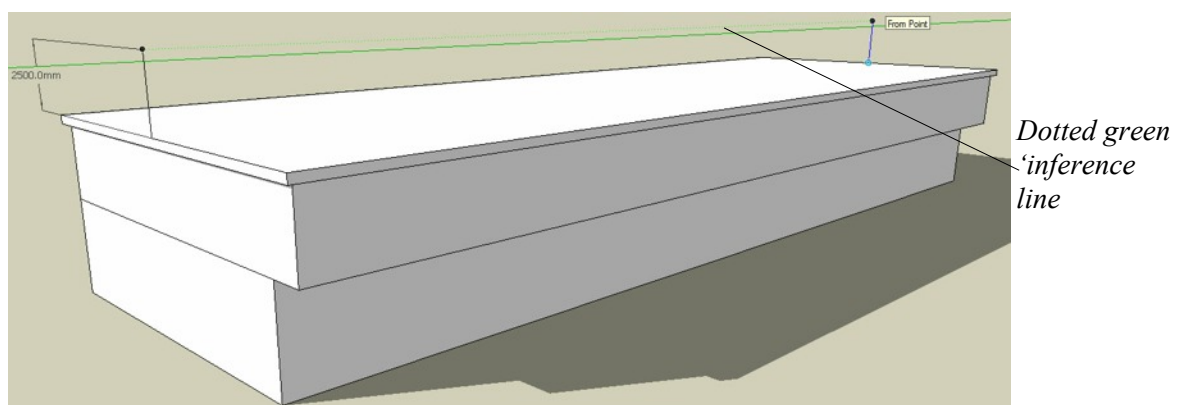

Figure 43. Drawing the roof ridge by 'inferencing'
- Create a pitched roof with a height of 2500mm as shown in Figure 43.
TIP After you have drawn the first line at the Midpoint of the roof as shown in Figure 43, pick the Midpoint at the opposite end of the roof and then start drawing the line upwards on the blue axis. Move the pointer to the top of the first line whilst the line is being drawn and hover over the top Endpoint of the first line for 2 seconds. Move the pointer back to the second line and continue drawing it upwards. You will see a green dotted line joining with the top of the first line. Click this point as Sketchup is indicating that the second line is now at the same height as the first - 2500mm. This method is known as 'inferencing'.